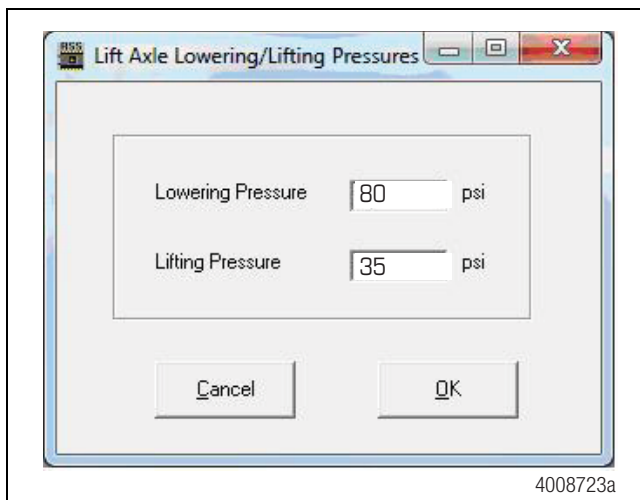

Figure 10
2. The Lift Axle Lowering/Lifting Pressures screen appears which allows you to enter the Lowering and Lifting Pressures. Figure 10.